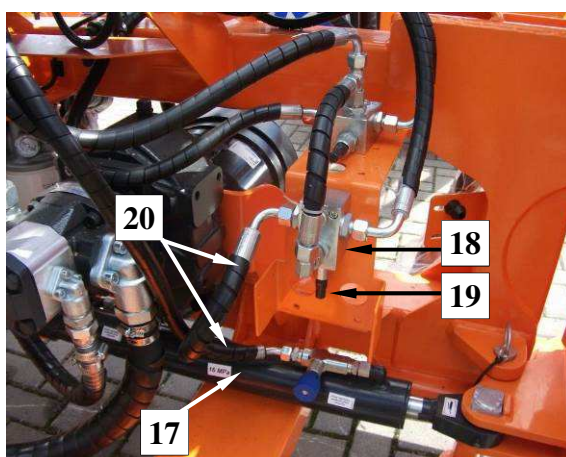

Fig. 61. Sweep valve (18) for underrun protection
Rotation cylinder (17) is connected to sweep valve **(18)** (**Fig. 61**), which protects working arms from overloading. Increasing pressure in cylinder shall cause oil flow and arm deflection. Valve adjustment is performed with bolt **(19)** located on the valve. Do not make any self-adjustments of the valve.